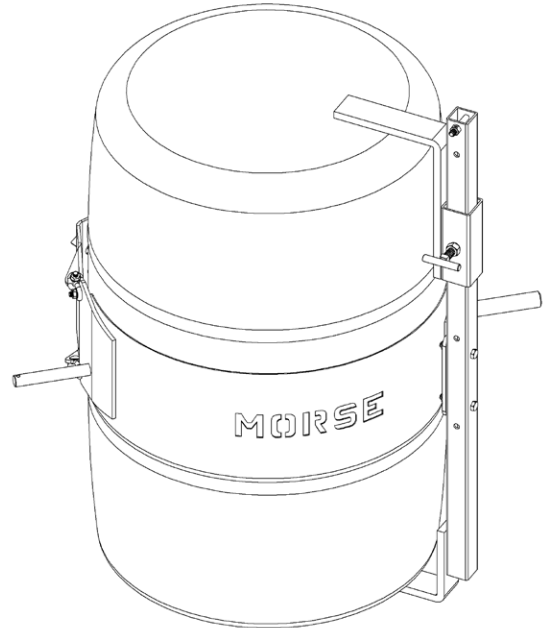

Figure 1
1. Position drum holder assembly so bottom bracket (item 5) rests on floor.
2. Loosen tee handle (item 2) and slide hold down (item 1) up to highest position. Tighten tee handle.
4. Loosen tee handle and slide hold down to meet top of drum. Tighten tee handle. (see Figure 1)